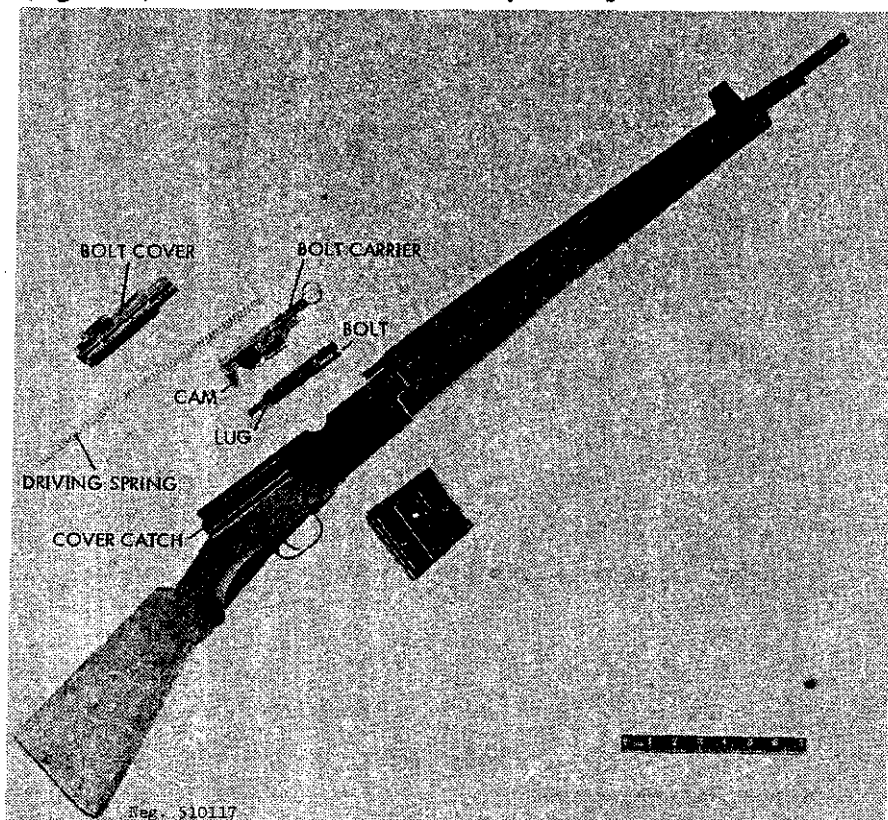

Figure 118. M.A.S. 49 disassembled.
- c. Press down the cover catch (fig 118) at the rear of the receiver and, while the catch is in, push the receiver cover forward until the rear end can be eased up, out of the receiver. Allow the receiver cover to move rearward until it can be removed. Pull out the driving spring. Move the operating handle rearward until the bolt carrier (fig 118) can be lifted out of the receiver. Lift out the bolt (fig 118). No further disassembly is required or desirable.